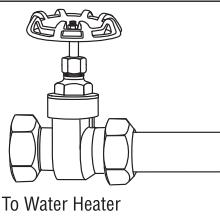

Figure 4
4. Using the valve compression fitting, attach the gate valve to the incoming water supply pipe after the system. Firmly tighten compression nut. (Figure 4)